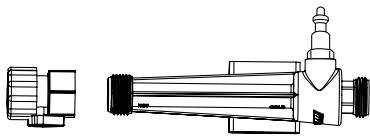

Figure 1
- Screw the black connector on the end of the breathing tube onto the COLD side of the HCT Tube (**Figure 1**). Tighten firmly.
- Turn flow control valve to adjust the flow and temperature of incoming air (**Figure 1**).